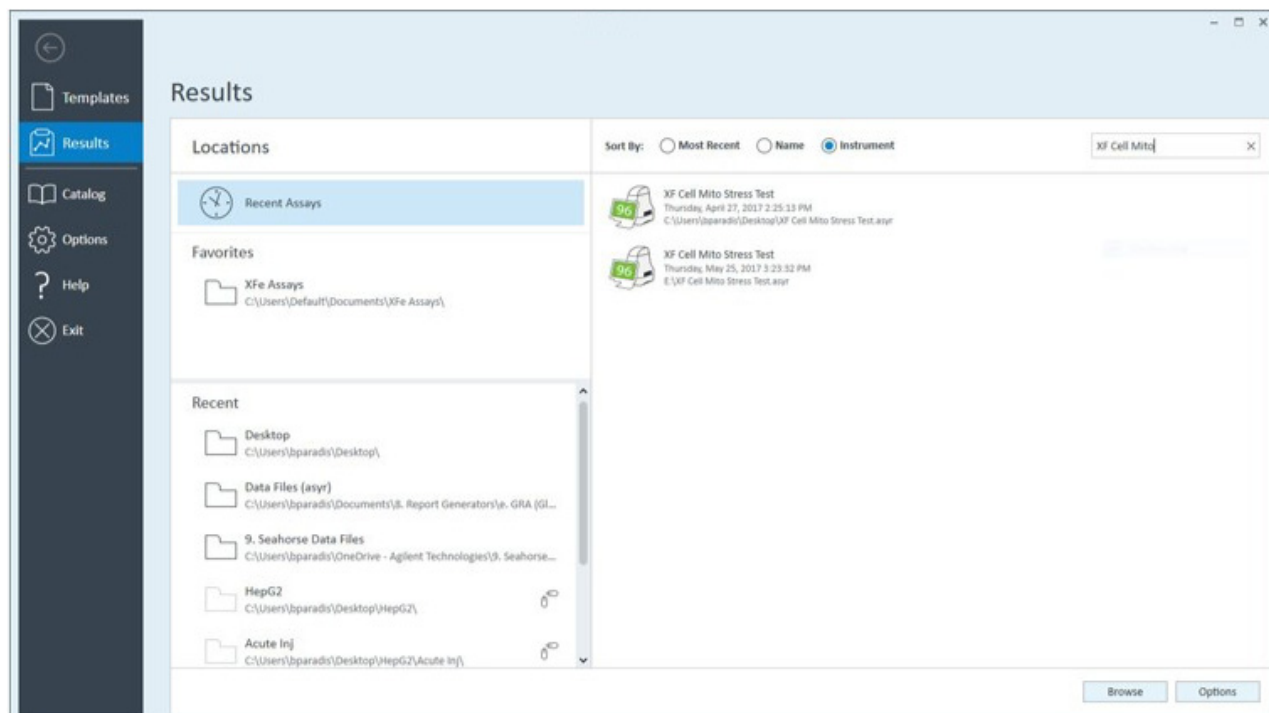
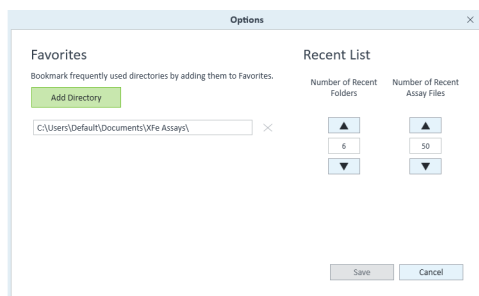

Figure 98 Wave Home > Results view
Figure 100 Edit result file display options
The Results view, Figure 98, displays recently opened assay result files, the corresponding file directory where each assay result file is located, and Favorite Places. Opening a new assay result file displays the default analysis view, the Quick View. After modifying and saving an assay result file, Wave automatically displays the last modified analysis view the next time the assay result file is opened.
- **Recent Assays** displays a sortable and searchable list of recently viewed and analyzed assay result files. (See Figure 98 on page 102.)
Click **Options**, next to **Browse** in Figure 98 on page 102, to add Favorite Places (that is, a shared network directory) or configure the number of **Recent Folders** and **Recent Assay Files** to display on the Results view. (See Figure 100.)
To manually open an assay template or assay result file, click **Browse**. (See Figure 98 on page 102.)